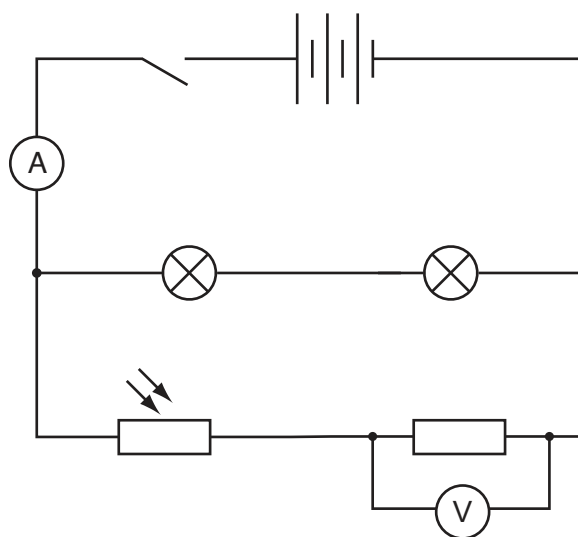

Fig. 2.1
- sufficient connecting leads and crocodile clips to set up the circuit shown in Fig. 2.1 (see Note 4).
4. The supervisor should set up the circuit shown in Fig. 2.1. Short connecting leads should be used so that there is no overlapping and the layout of the circuit is clearly visible to the candidate. The resistor must also be placed on a card labelled 'Resistor' and the LDR should be placed on a card labelled 'Light Dependent Resistor'.
The supervisor must ensure that the circuit is as shown in Fig. 2.1 with the switch open.